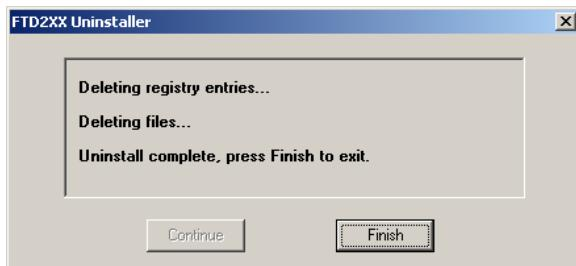

Figure 11-14: FTDI Uninstall Complete Dialog Box
6. When the uninstaller has finished (refer to Figure 11-14) remove the device from the system and the caption on the **Cancel** button changes to **Finish**. Click the **Finish** button to complete the process.